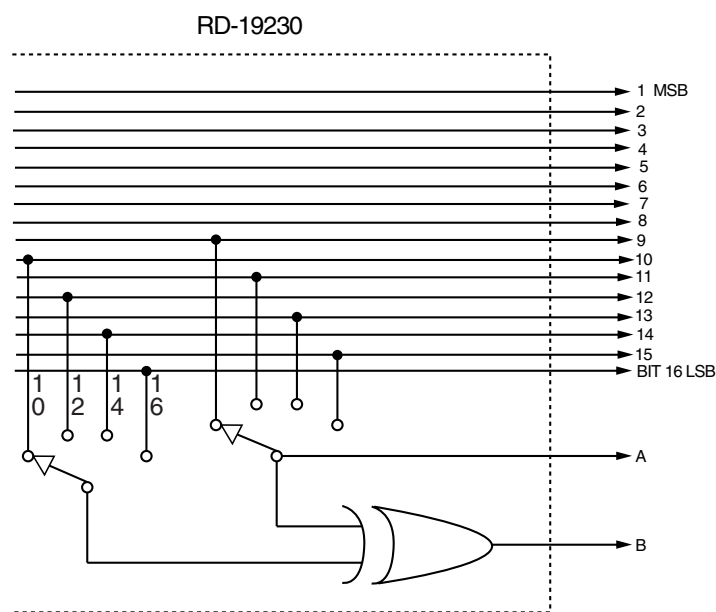

FIGURE 21. INCREMENTAL ENCODER EMULATION RESOLUTION CONTROL
**Note: The encoder resolution must be less than or equal to the resolution of the parallel data outputs. Refer to FIGURE 21.**